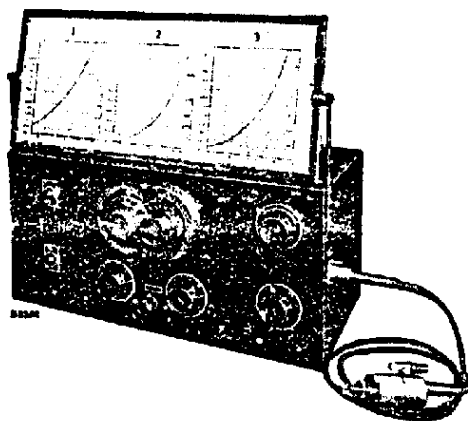

Fig.1
1. Service oscillator GM 2880 (fig. 1).
6. Trimming plug-in key 6 mm, without metal parts.
7. Insulated trimming plug-in key 6 mm.
8. Insulated trimming plug-in key 8 mm.